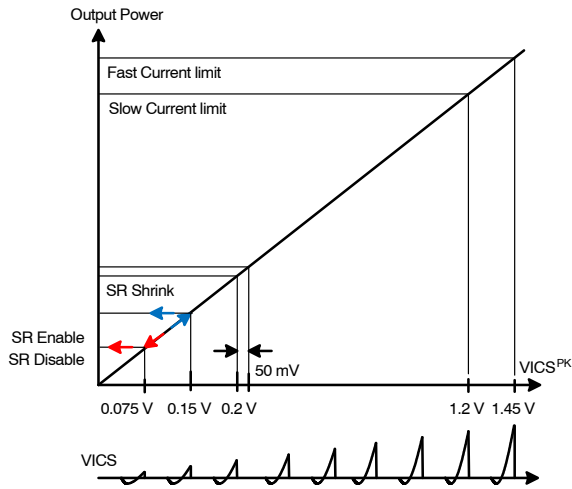
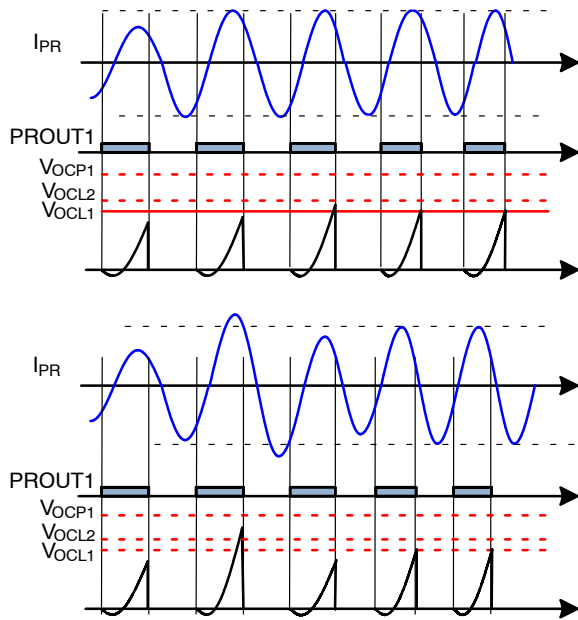
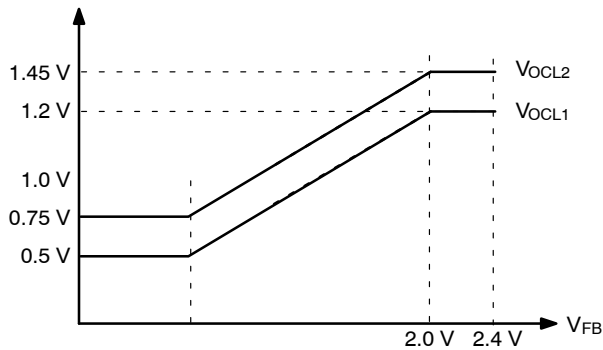

Figure 63. Functions Related to VICS Peak Voltage
Figure 64. Current Limit of the ICS Pin by Frequency Shift (Compensation Cutback)
Figure 65. Current Limit Threshold Modulation as a Function of Feedback Voltage
Since the peak value of the integral of the current sensing voltage (V_{ICS}) is proportional to the average input current of the LLC resonant converter, it is used for four main functions, listed and shown in Figure 63.
3. **Over-Current Limit:** The V_{ICS} peak value is also used for input current limit. As can be seen in Figure 63, there exist two different current limits (fast and slow). When the V_{ICS} peak value increases above the slow current limit level (V_{OCL1}) due to a mild overload condition, the internal feedback compensation voltage is slowly reduced to limit the input power. This continues until the V_{ICS} peak value drops below V_{OCL1} . During a more severe over load condition, the V_{ICS} peak value crosses the fast current limit threshold (V_{OCL2}) and the internal feedback compensation voltage is quickly reduced to limit the input power as shown in Figure 64. This continues until the V_{ICS} peak value drops below V_{OCL2} . The current limit threshold on the V_{ICS} peak value also changes as the output voltage sensing signal (V_{FB}) decreases such that output current is limited during overload condition as shown in Figure 65. These limit thresholds change to higher values ($V_{OCL1.BR}$ and $V_{OCL2.BR}$) when the converter operates in deep below resonance operation for a longer holdup time (refer to holdup time boost function).